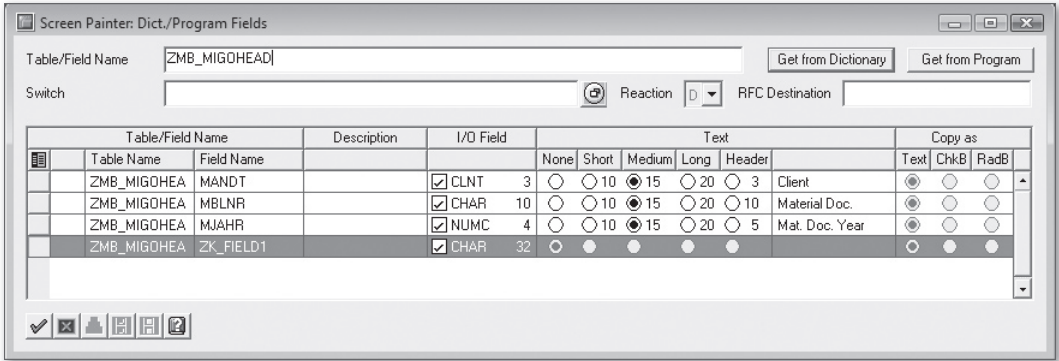

Figure 5.2 Dict./Program Fields Window
3. Click the `LAYOUT` button to switch to the Screen Painter. Here you choose `DICTIONARY/PROGRAM FIELDS` in the `GO TO • SECONDARY WINDOW` menu, or press . In the window displayed, specify `ZMB_MIGOHEAD` as the table name and press . Mark the field `ZK_FELD1`, and press again (see Figure 5.2). Using the mouse, now position the field in the top-left corner of the dynpro. Save and activate the dynpro, and then exit the Screen Painter.